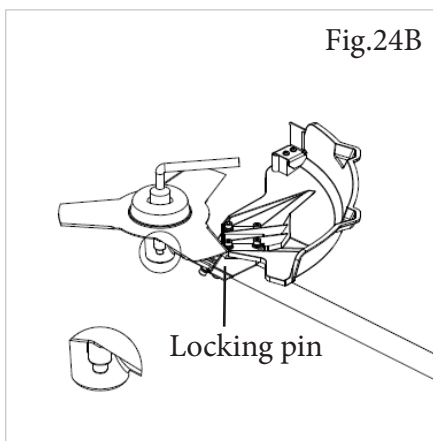
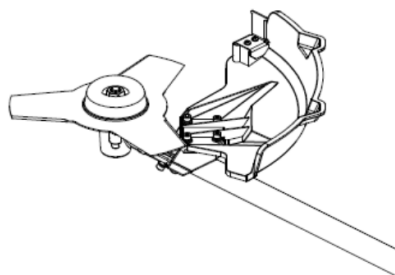

Fig.24B
Fig.24C
- c) Press the locking pin and at the same time turn the nut clockwise with the wrench provided to assemble it. (Fig.24B/Fig.24C)